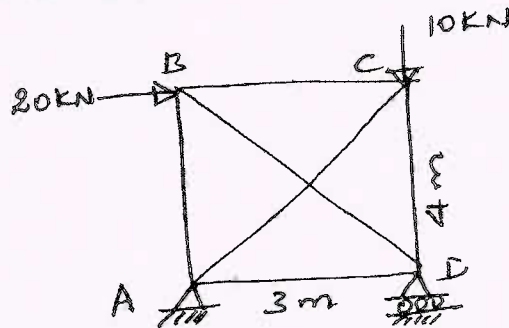

Fig.Q8
- 8 Using the flexibility method, analyze the pin-jointer frame in Fig.Q8. The cross-sectional areas A and E for all members is same.